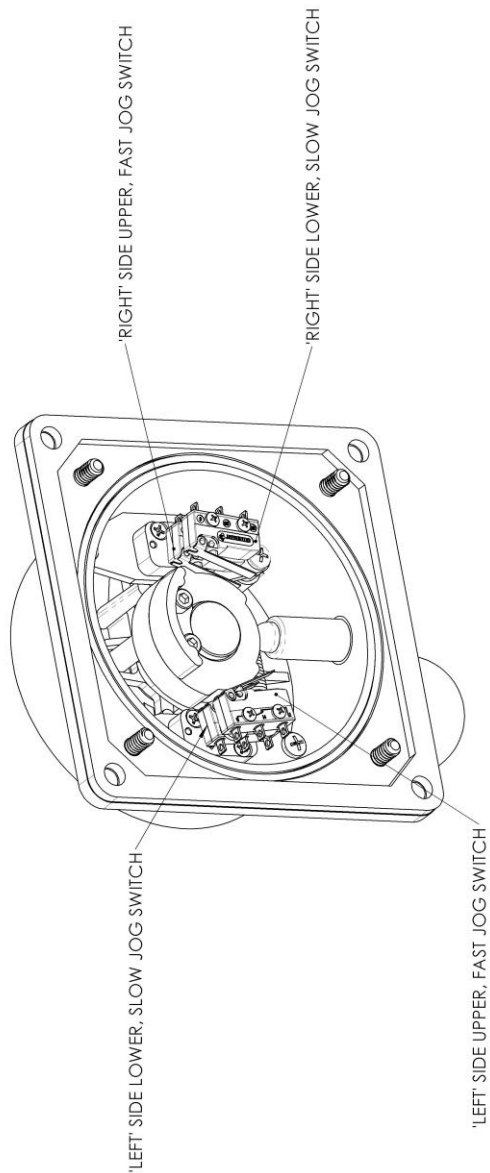

Figure 17: Arrangement of microswitches in jog lever housing
1. Refer to Figure 17 and familiarize yourself with the microswitch positions and what is meant by: left, right, upper and lower switch positions.